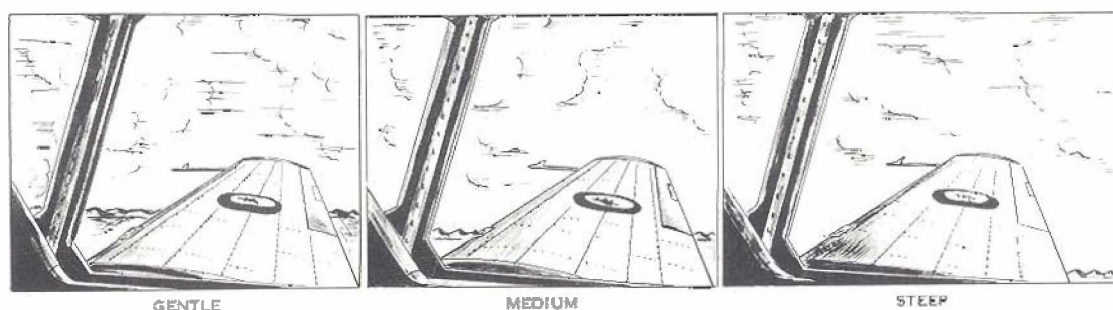
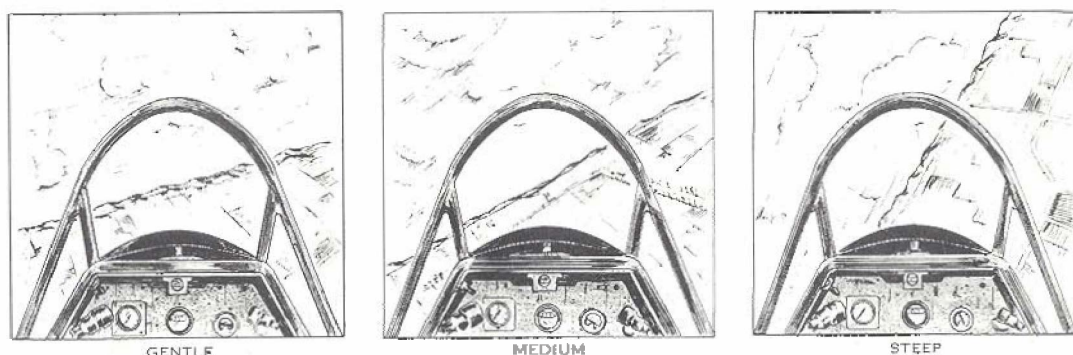

Figure 3: The Wing Attitude in Turns
Figure 2: The Nose Attitude in Turns
(4) **REFERENCE POINTS** - Just as in straight and level flight, reference can be made to the nose and wings of the aircraft for proper pitch and bank attitude. In gentle turns of 15 degrees of bank, the nose should be well below the horizon (Figure 2) while the high wing should be intersected midway between the aileron trim tab and the inboard edge of the aileron. (Figure 3). For medium turns (30 degrees of bank) the nose should be just below the horizon and the high wing should be intersected at the inboard edge of the landing light. For steep turns of 45 to 60 degrees of bank, the reference point for the nose is the horizon itself, and the high wing should be intersected slightly outboard of the wing-joint cover.